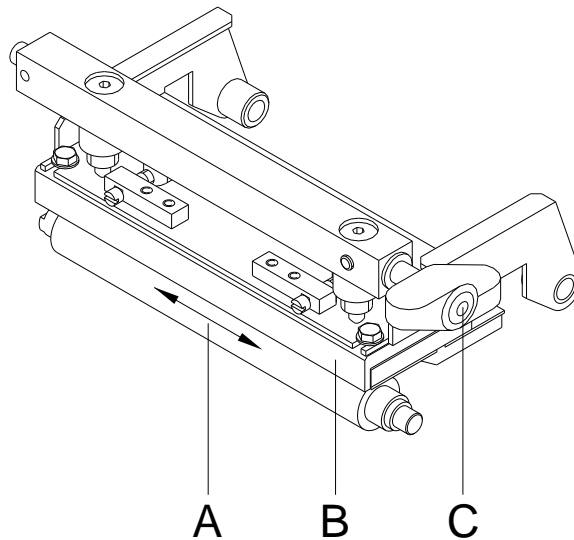

Figure 2
2. Turn the lever (A, Figure 2) counter clockwise to lift up the printhead.
2. Turn the lever (A, in Figure 2) counter clockwise to lift up the printhead.
4. Blow out the photocell (A) with pressure gas spray. Observe strictly the instructions on the spray can!
5. Clean the label photocell (A) additionally with a cleaning card (B) before soaked in pure alcohol. Move the cleaning card from one side to the other (see illustration).